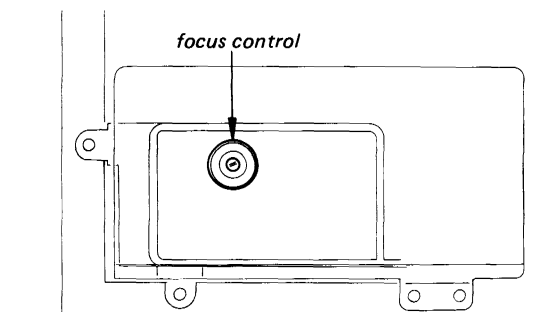

Fig. 3-4
- (3) Turn the green lens to obtain a best focus.
- (4) Adjust the focus control for a best focus as shown in Fig. 3-4.